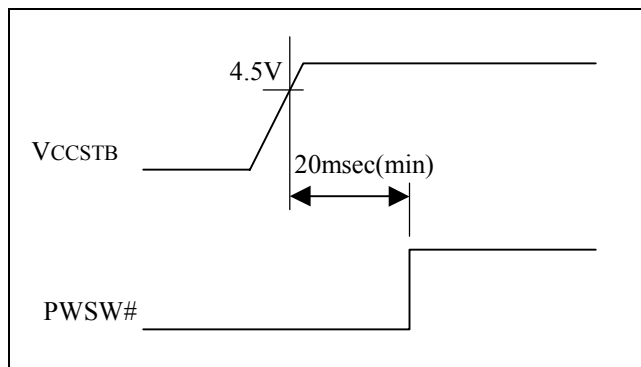
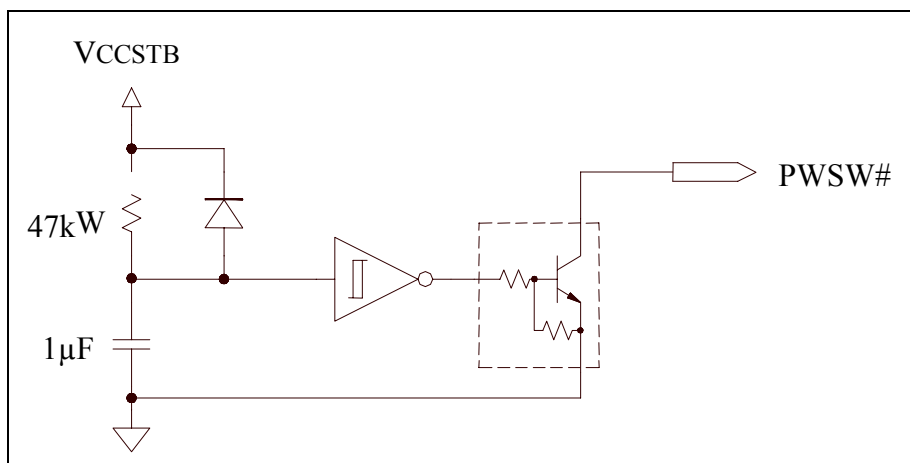

Fig. 3-5 Timing of VCCSTB and PWSW# signals (VCCSTB pin =VCC5V)
Fig. 3-6 PWSW# pin handling method (VCCSTB pin =VCC5V)
- #9) Input at the timing described in Fig. 3-5 is necessary. Also, even when it is not used, the pin must be handled in the way described in Fig. 3-6
Connect the VCCSTB pin of CARD-PCI/GX to VCC5V. When it is connected, delay the PWSW# signal by more than 20 msec after the rise of VCCSTB, as described in Fig. 3-5. If the delay is less than 20 msec, CARD-PCI/GX may not function normally. Fig. 3-6 shows an example of the PWSW# signal generation circuitry. While it is possible to connect a SUSPEND/RESUME switch to the PWSW# pin, in this example the PWSW# pin is not used. Also, use the POFF signal as unconnected.